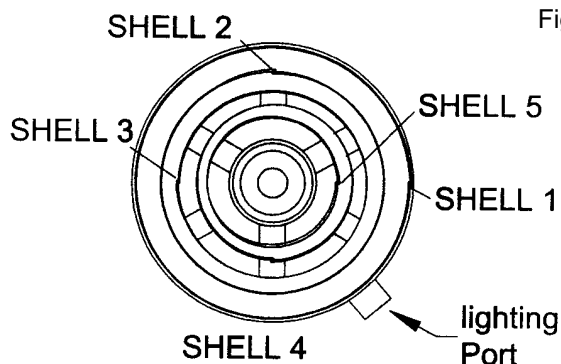

Fig.28
3. Fit the outer shell, ensuring that it sits firmly on the burner base and that it does not interfere with the outer wick. The outer shell is fitted such that the lighting port is offset to the right of the burner. (See Fig. 28).
4. Fit the remaining burner shells ensuring that the seams are staggered as shown in Fig.28. Ensure that all the shells sit firmly on the burner base and that they do not interfere with the wicks.